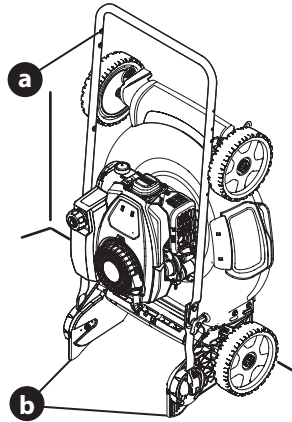

Figure 33
6. Lifting from the handle (a), tilt the mower up onto the rear wheels and back of the handle bracket (b) (Figure 33).